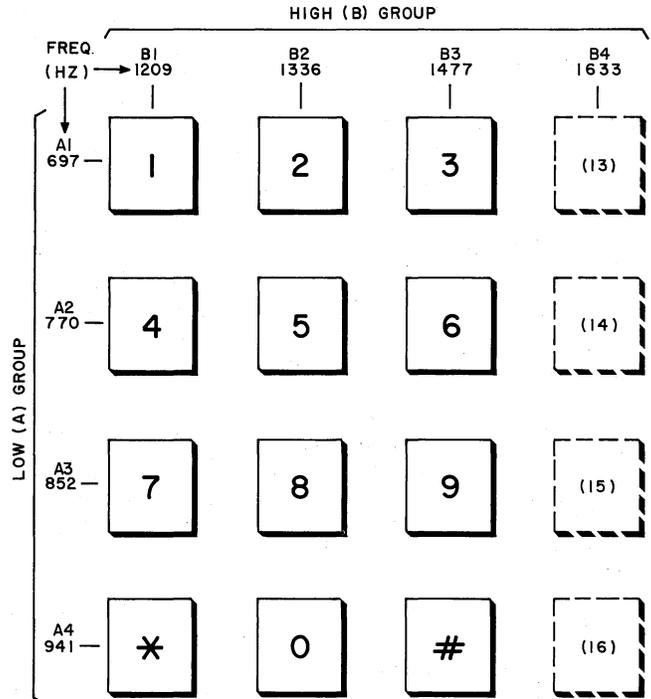

Fig. 7—Touch-Tone Dial Frequency Assignments
**3.05** The JU2 CP is the receiver portion of the data set and accepts a two-out-of-eight Touch-Tone transmission code. The transmission code consists of two groups of frequencies, a low group and a high group, each containing four frequencies. These frequencies are grouped and designated as shown in Fig. 7.
**3.06** The receiver detects the Touch-Tone signals at a maximum rate of ten characters per second. A character consists of one frequency from each group shown in Fig. 7. Therefore, the two-out-of-eight code provides 16 different frequency pairs (characters). Data set 407-type recognizes all of these characters.